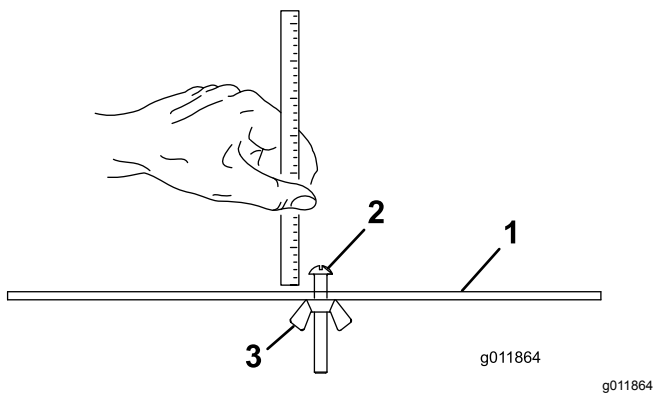

Figure 18
2. Loosen the nut on the gauge bar (Figure 18) and set the adjusting screw to the desired height of cut.